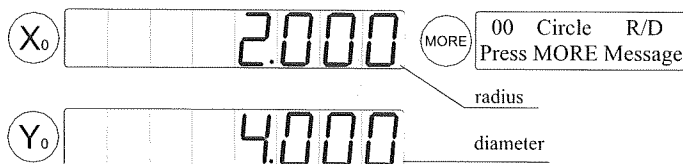
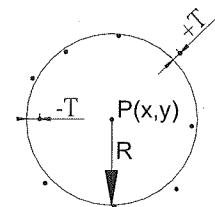

Figure1-14
Figure1-15
- 1) The information of the center point is displayed as in figure1-14, and 00 displayed in the LCD window indicates that the circle is a permanent feature. The point P is shown as in figure1-15.